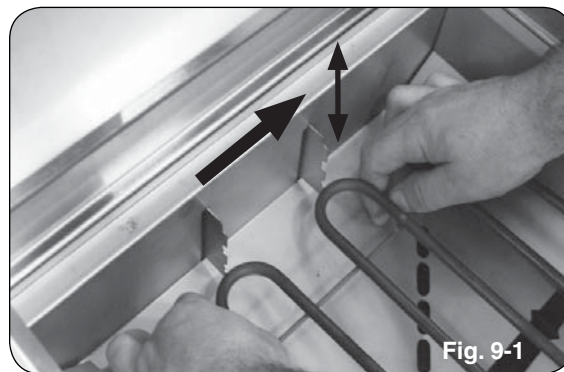

Fig. 9-1
2. Grasp the cool cooking element and apply pressure towards the right of the grill. Once it clears the tab, raise or lower it to the desired height. (See Fig. 9-1.) Be sure it securely rests in position.